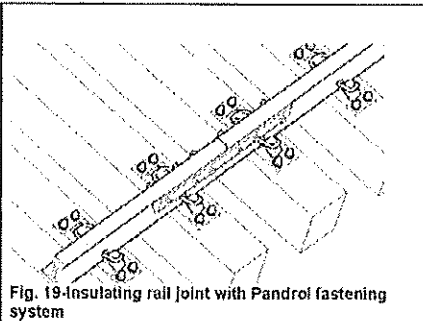

Fig. 19-Insulating rail joint with Pandrol fastening system
1. Insert the insulating rail joint, which was manufactured in the factory, into the intended position in the track and align accordingly. Take resilient pads into consideration, if applicable, Fig. 19.